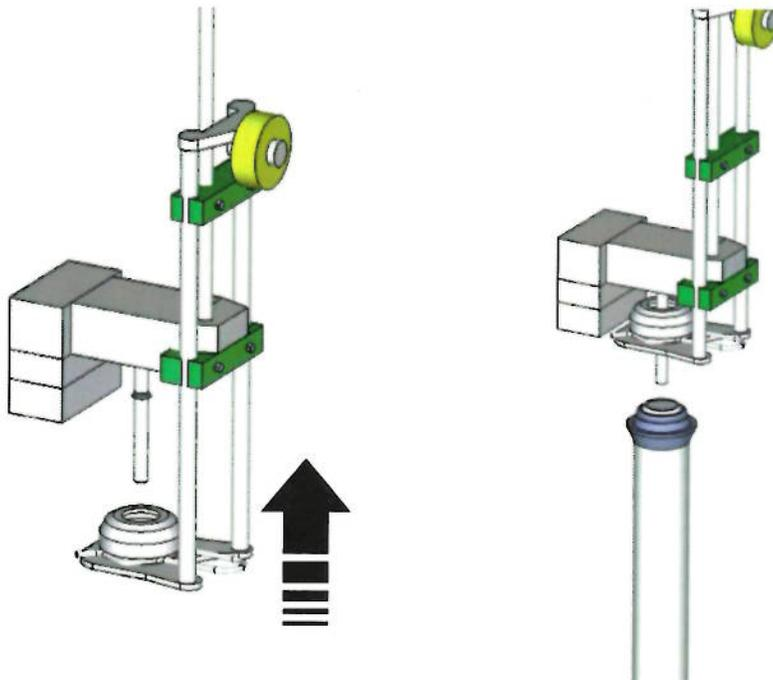

fig.2
- Lift the centering device to facilitate insertion of the false bottle (fig.2).